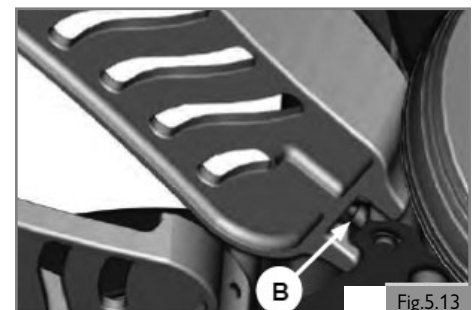

Fig.5.13
1. Flip up the footplate so that you can reach the angle setting screw (B). (Fig. 5.13)